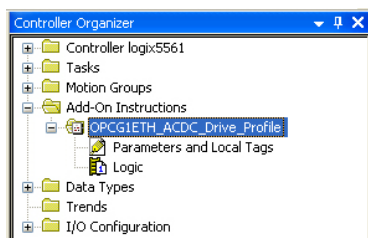

Figure 89: AC/DC Drive Profile Add-On Instruction
- 2) Right click on “Add-On Instructions” in the controller organizer view and select “Import Add-On Instruction”. Browse and import the AC/DC drive profile add-on instruction. Refer to Figure 89.